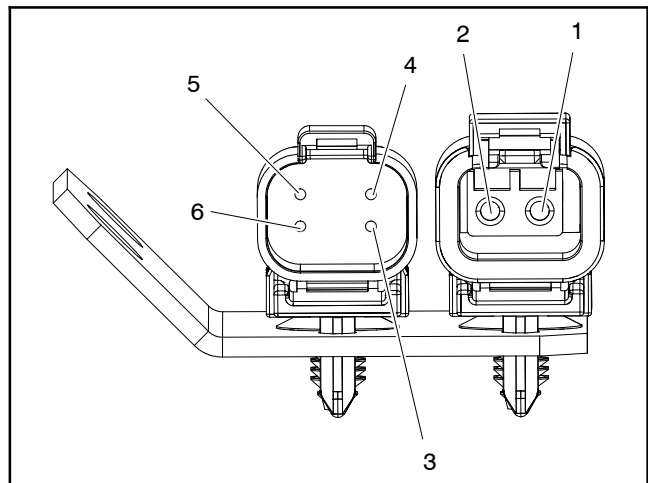

Figure 69
5. Using a multimeter, measure resistance between 48 VDC ground terminal (black wire) in the 2 wire connector and location ID terminal (blue wire) in 4 wire connector (Fig. 69). Resistance should be approximately **18.8 K-ohms**.